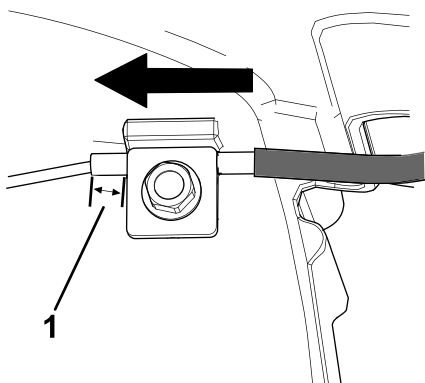

Figure 37
7. Mark the brake cable (Figure 36), then adjust the jacket until there is approximately 8 mm (5/16 inch) of slack (Figure 37).